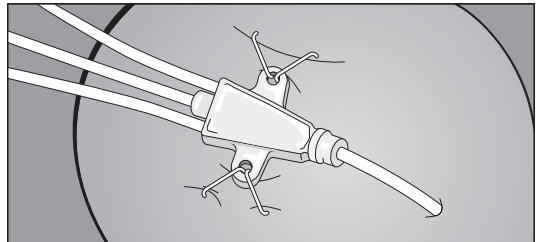

Figure 26
- Firmly squeeze anchoring device together to close staple and secure catheter to skin (refer to Figure 26).